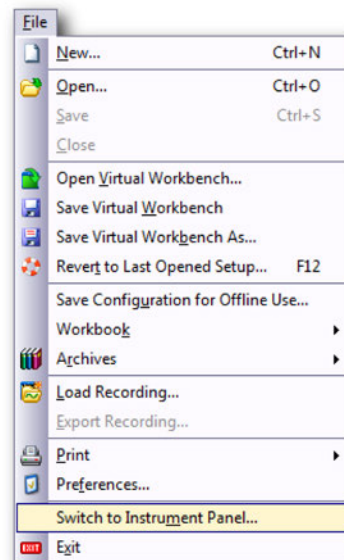

Figure 6.7: Switch to Instrument Panel option
- C Instrument Panel** The Instrument Panel GUI, which is the default option for GEN3i and GEN3iA. For more information, please refer to Figure 6.7 "Switch to Instrument Panel option" on page 91.